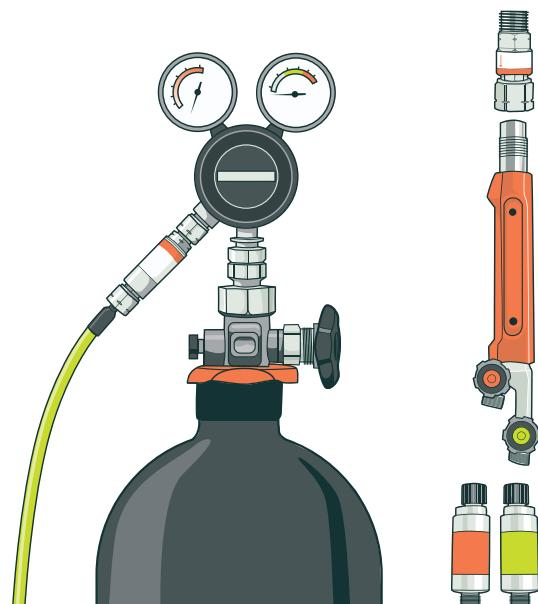

FIGURE 4: Flashback arrestors
- Fit flashback arrestors at the blow pipe and regulator end of both the oxygen and fuel gas lines. See Figure 4.